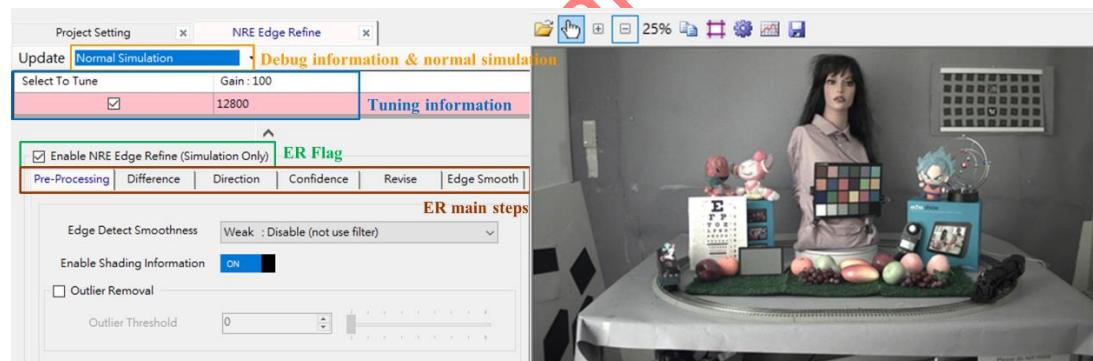

Fig. 5-91 About ER interface
- Debug information: we provide five debug information for user, as Fig. 5-91